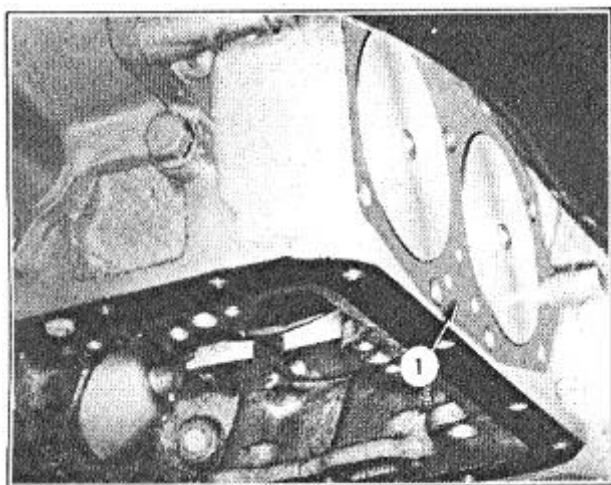

FIGURE 81
1. Apply a thin coat of petroleum jelly to the transmission case and install a new outer cylinder plate inner gasket (1), Figure 81.